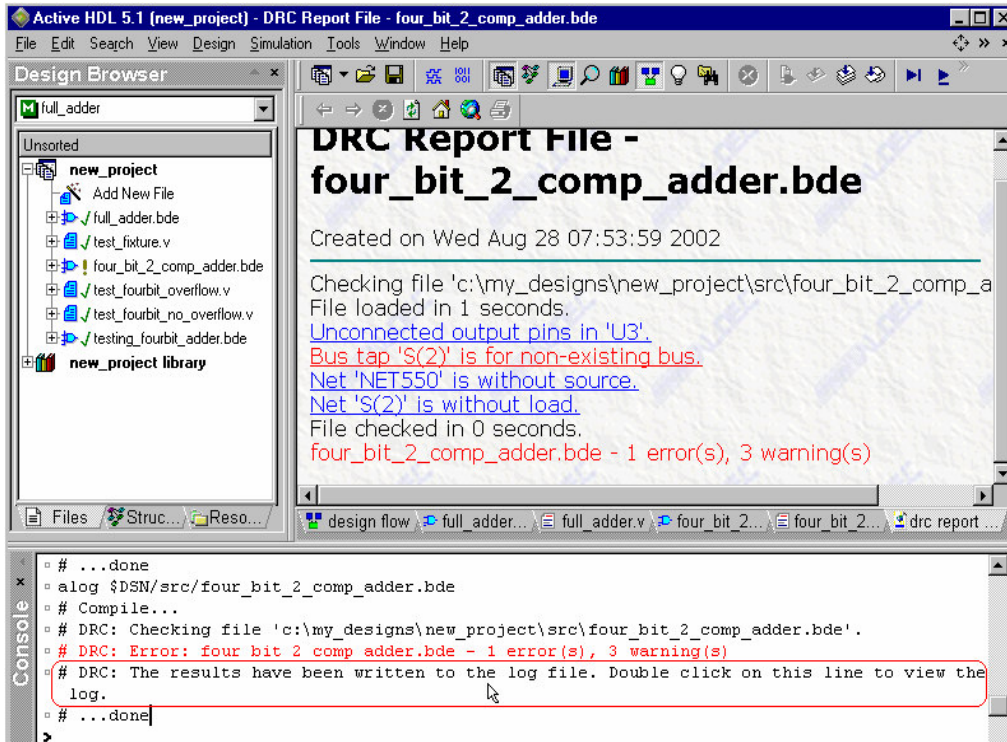

Figure 20
3. When you run the check diagram tool, a DRC report file is created. Open this file by going to the DRC line in the Console and double-click the appropriate line (see 2X). This file will list any errors or warnings your design might contain, such as unconnected ports, mislabeled wires and/or terminals, and other connection related errors/warnings. Each error/warning in the report is a hyperlink that will take you to the problematic component in your design. Figure 20 shows an example of a DRC report file for a schematic with an error and some warnings.